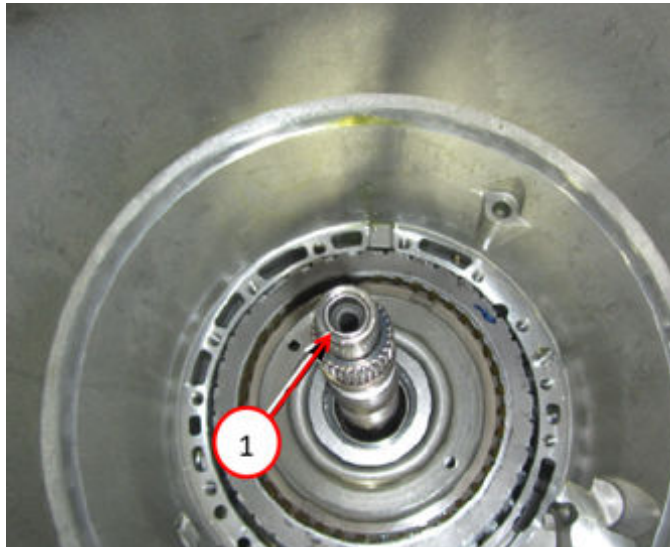

Fig. 18
28. Remove the input/output shaft and P4 annulus drum assembly from the case Fig. 18.